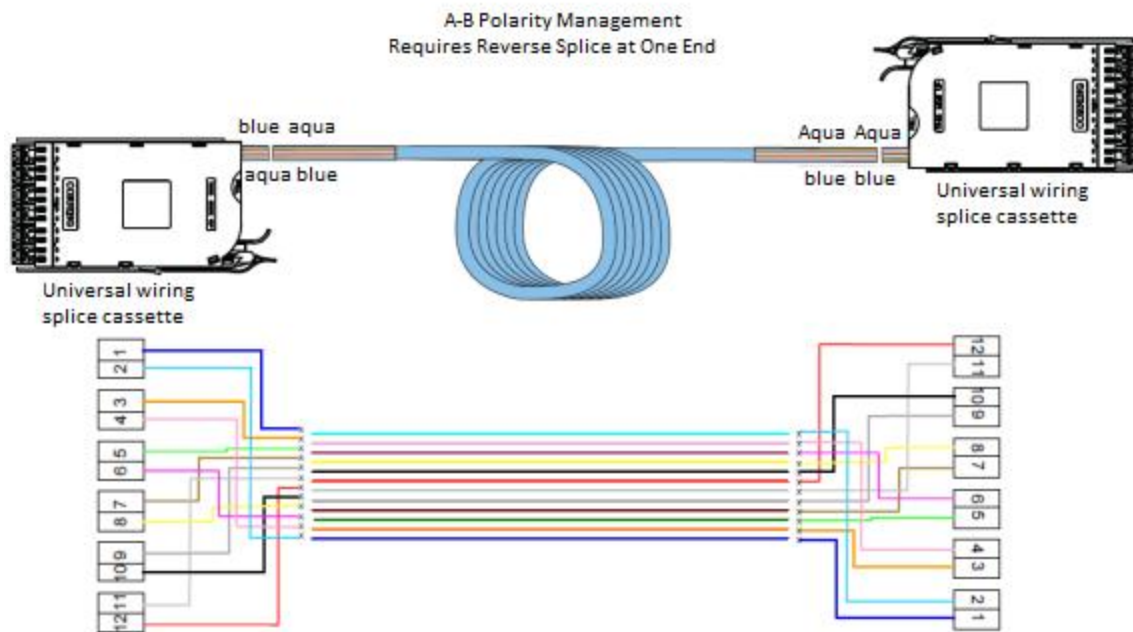

Figure 1: Universal Wiring Scheme – Splice Cassettes on Both Ends
3.1.1.1 The cassette with universal wiring shall have polarity-managed fiber routing as shown in Figure 1.
3.1.1.2 For A-to-B polarity management with universal splice cassettes, one end (cassette) shall be spliced to the cable blue to blue / aqua to aqua, and the other end (cassette) shall be spliced to the cable blue to aqua / aqua to blue as shown in Figure 1.